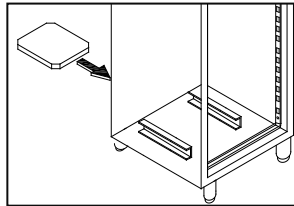

Figure 3
- Slide into the appropriate runners, on the lower part of the refrigerator, the condensation waste tray and for appliances which have automatic trays, connect the connector. (Fig. 3)